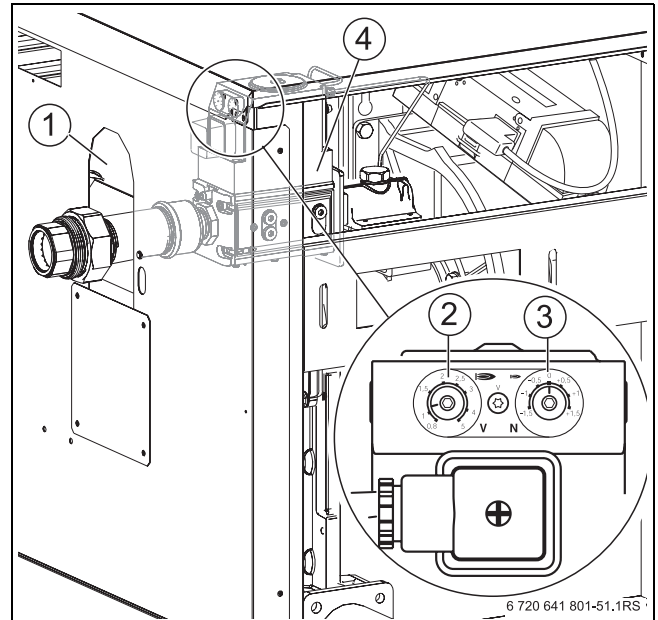

Fig. 26 Conversion to a different gas type (boiler size 200 to 280 kW)
- ▶ Increase the value of adjusting screw V (→ Fig. 26, [2]) by 0.5, e.g. from setting 1.1 to 1.6.
- ▶ Decrease the value of adjusting screw V (→ Fig. 26, [2]) by 0.5, e.g. from setting 1.6 to 1.1.